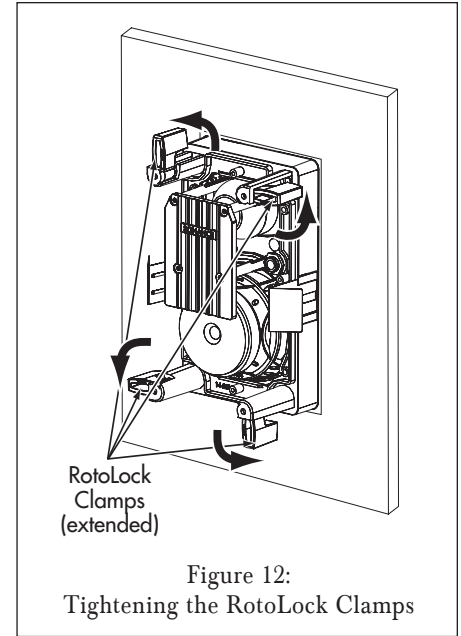

Figure 12:
6. Tighten the four screws on the front of the speaker baffle. The RotoLock clamps will automatically rotate into position and begin clamping the speaker (see Figure 12).